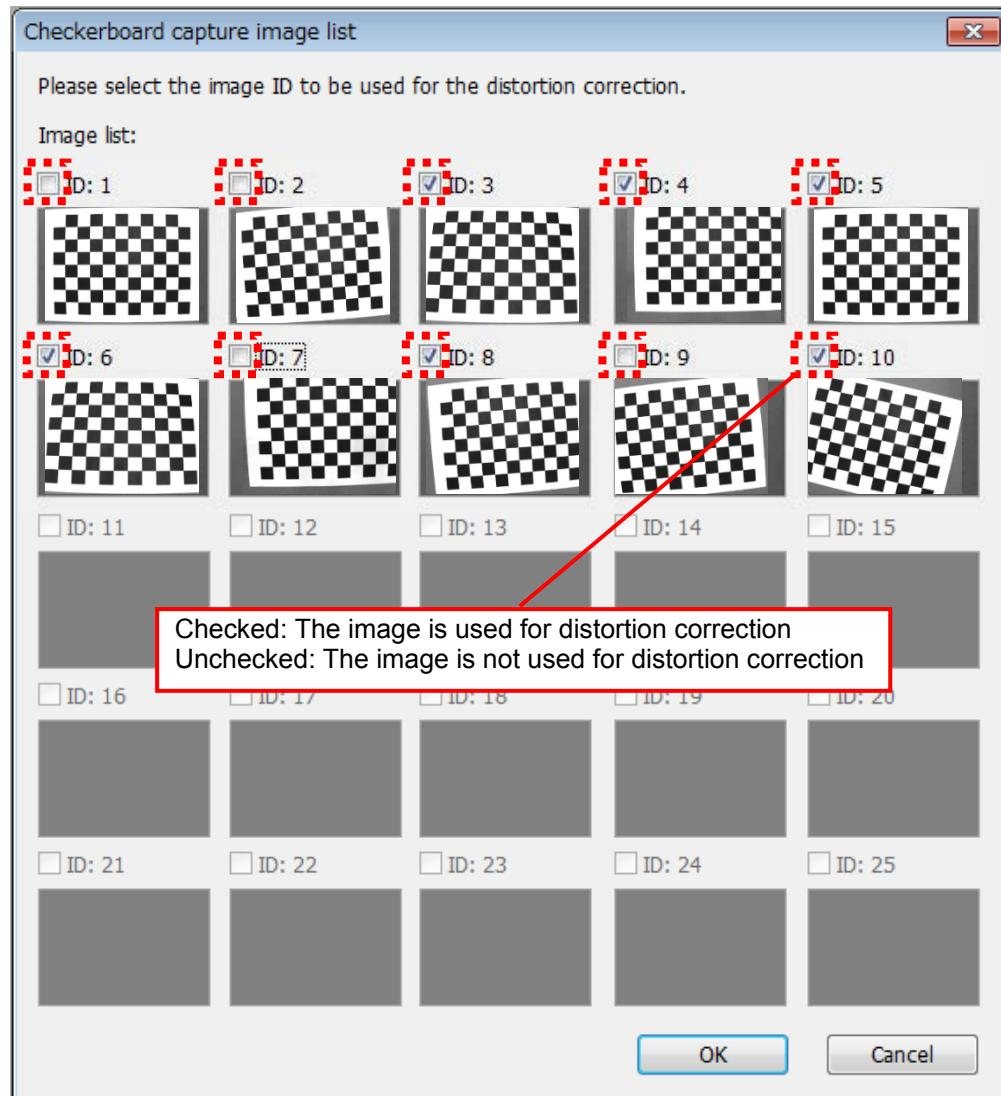

Fig. 7-55 Image list
- When the evaluation value of distortion correction is low, increase the number of images used. Photograph the installed checkerboard from various angles (camera optical axes) (refer to Fig. 7-55). In addition, the target evaluation value of distortion correction should be 90 or more.